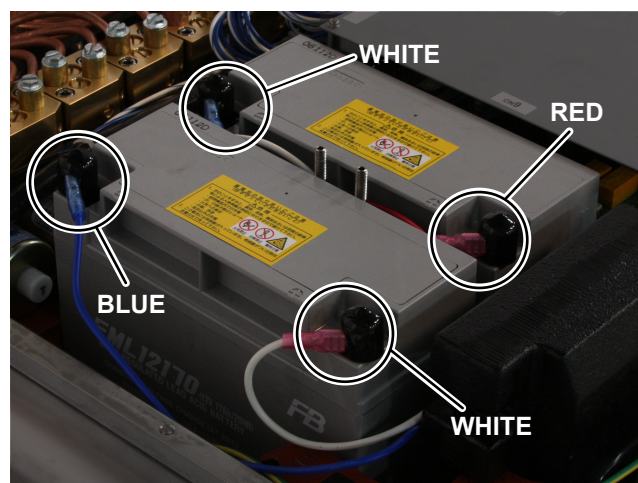

Figure 36. Battery Terminal Connect
7. Connect the correct wires to the battery terminals (Figure 36).
8. Install battery hold-down bar over batteries and secure using the washers and nuts as shown (Figure 36).